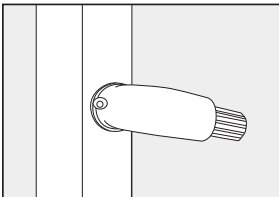

Fig. 2
4. After railing installation has been dry fit, disassemble and apply aluminum adhesive and permanently mount the handrail lineal (Fig. 2).